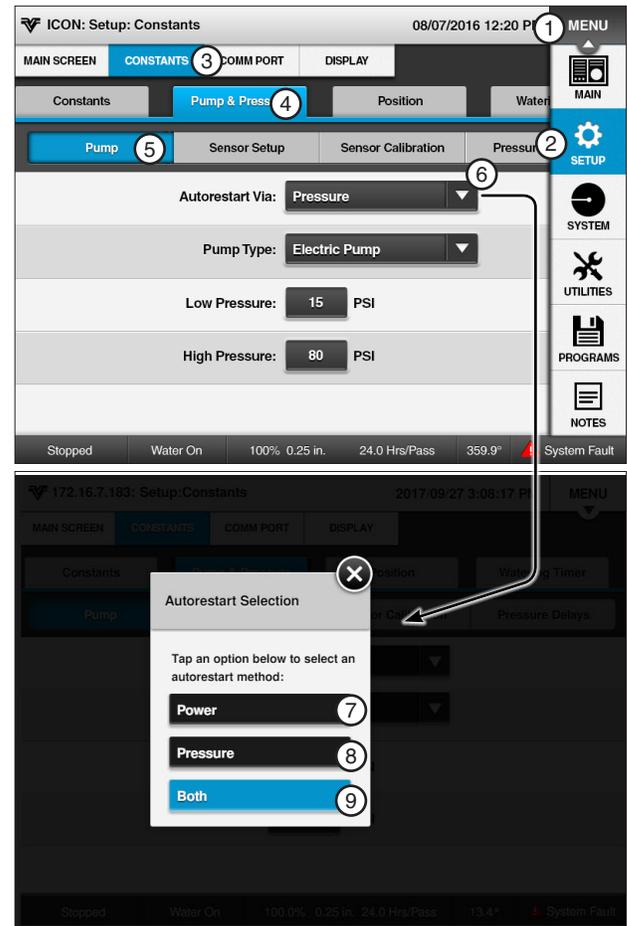

Figure 19-1 1. Menu 2. Setup 3. Constants 4. Pump 5. Pump 6. Auto Restart Via 7. Power 8. Pressure 9. Both
Push **Menu**, **Setup**, **Constants** and **Pump & Pressure** to view Pump, Sensor Setup, Sensor Calibration and Pressure settings. Refer to Figure 19-1.
Push **Menu**, **Setup**, **Constants**, **Pump & Pressure** and **Pump** for the Pump setup options screen. Refer to Figure 19-1.
The Auto Restart option is used to restart the machine automatically. It will restart when either the pressure or the power have been returned to the machine after the machine was shut down by pressure, power, or both. The Auto Restart Via drop-down menu is used to select the shutdown input. Refer to Figure 19-1.
- If the machine is shut down by pushing the STOP button, by the stop-in-slot position, or by a programmed shutdown, Auto Restart is temporarily disabled by the control panel and the Restart status changes to a No Restart status on the Main Screen as shown in Figure 19-1.